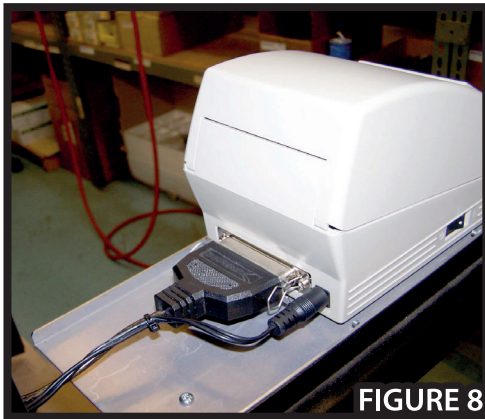

FIGURE 8
19. Locate power switch on Thermal printer and set switch to "On" ("I" down). The Printer will not power up until power has been restored to vending machine. Do not restore power at this time. Place Thermal Printer on Printer Shelf and plug in parallel interface end of data cable to parallel port at rear of printer and secure connection with "port tabs" on printer. Plug in AC adapter cable connector (power end) into power connector at rear of printer. **Figure 8.**